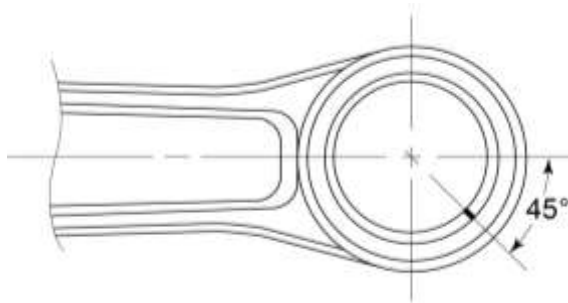

Figure 27
- F. Make sure the split in the bushing is located so that it is toward the piston end of the connecting rod and 45° off the centerline (Figure 27) and press the bushing into the connecting rod until the edge of the bushing is flush with the surface of the connecting rod.